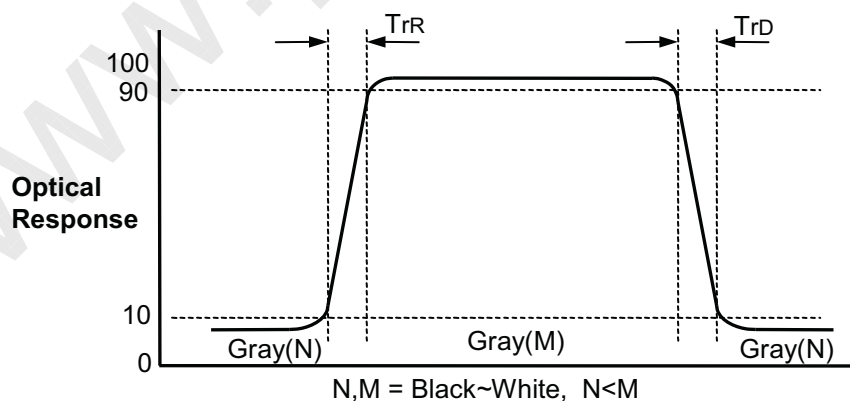

FIG. 3 Response Time
4. Response time is the time required for the display to transit from any gray to white (Rise Time, T_{R}) and from any gray to black (Decay time, T_{D}). For additional information see the FIG. 3.